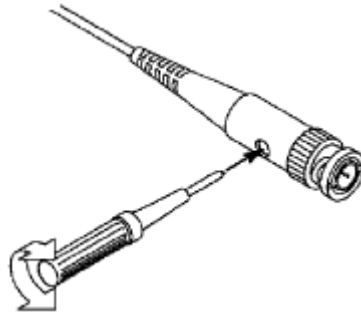

Fig. 3-8 Adjust Probe
2. Check the displayed waveforms and regulate the probe till a correct compensation is achieved (see Fig.3-7 and Fig.3-8).